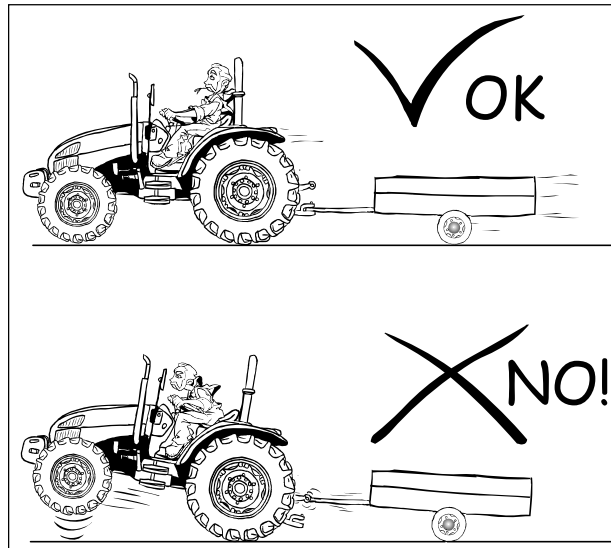

Fig. 2-36
- Pull only from the approved drawbar. Towing or attaching to other locations may cause the tractor to overturn (Fig. 2-36).